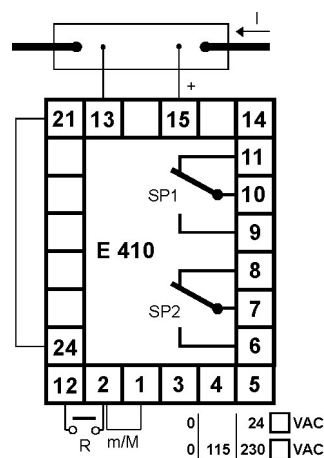

Fig.4
- **E 410A**: misura mediante shunt (60mV): pin 15-13 (+ su pin 15), eseguire il cavallotto 21-24 (fig.4).
- **E 410A**: it measures by means of a shunt (60mV): pin 15-13( +on pin 15), make the jumper link 21-24 (fig.4).